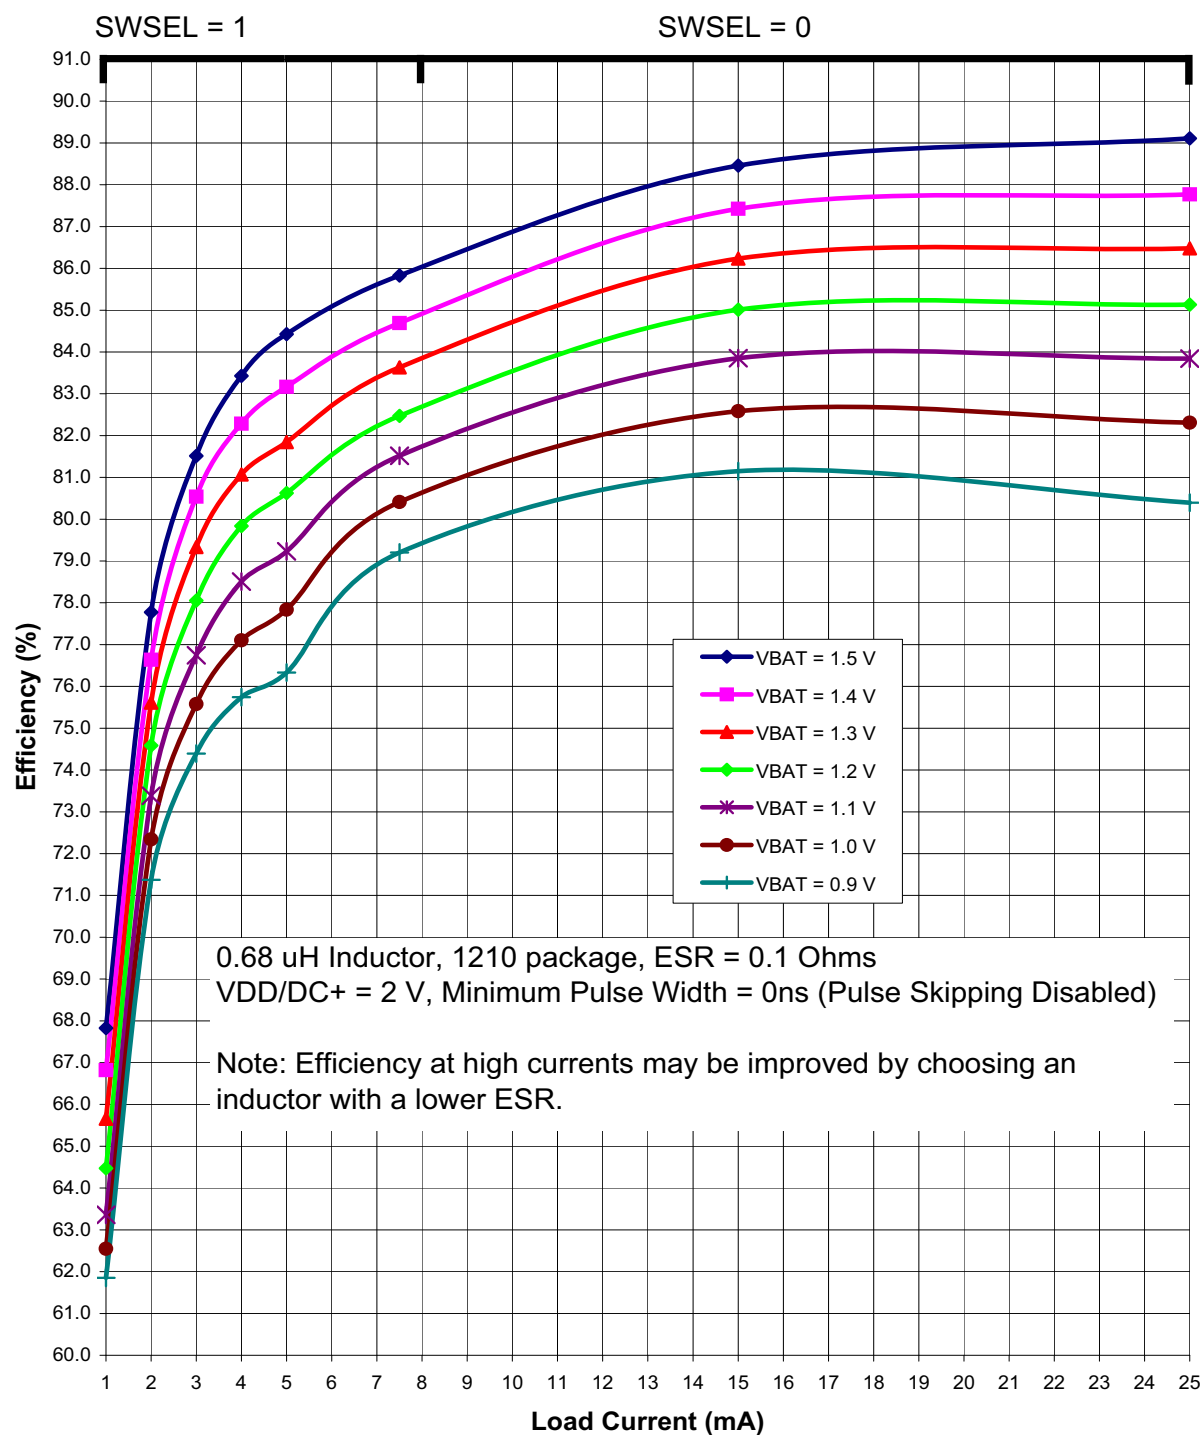
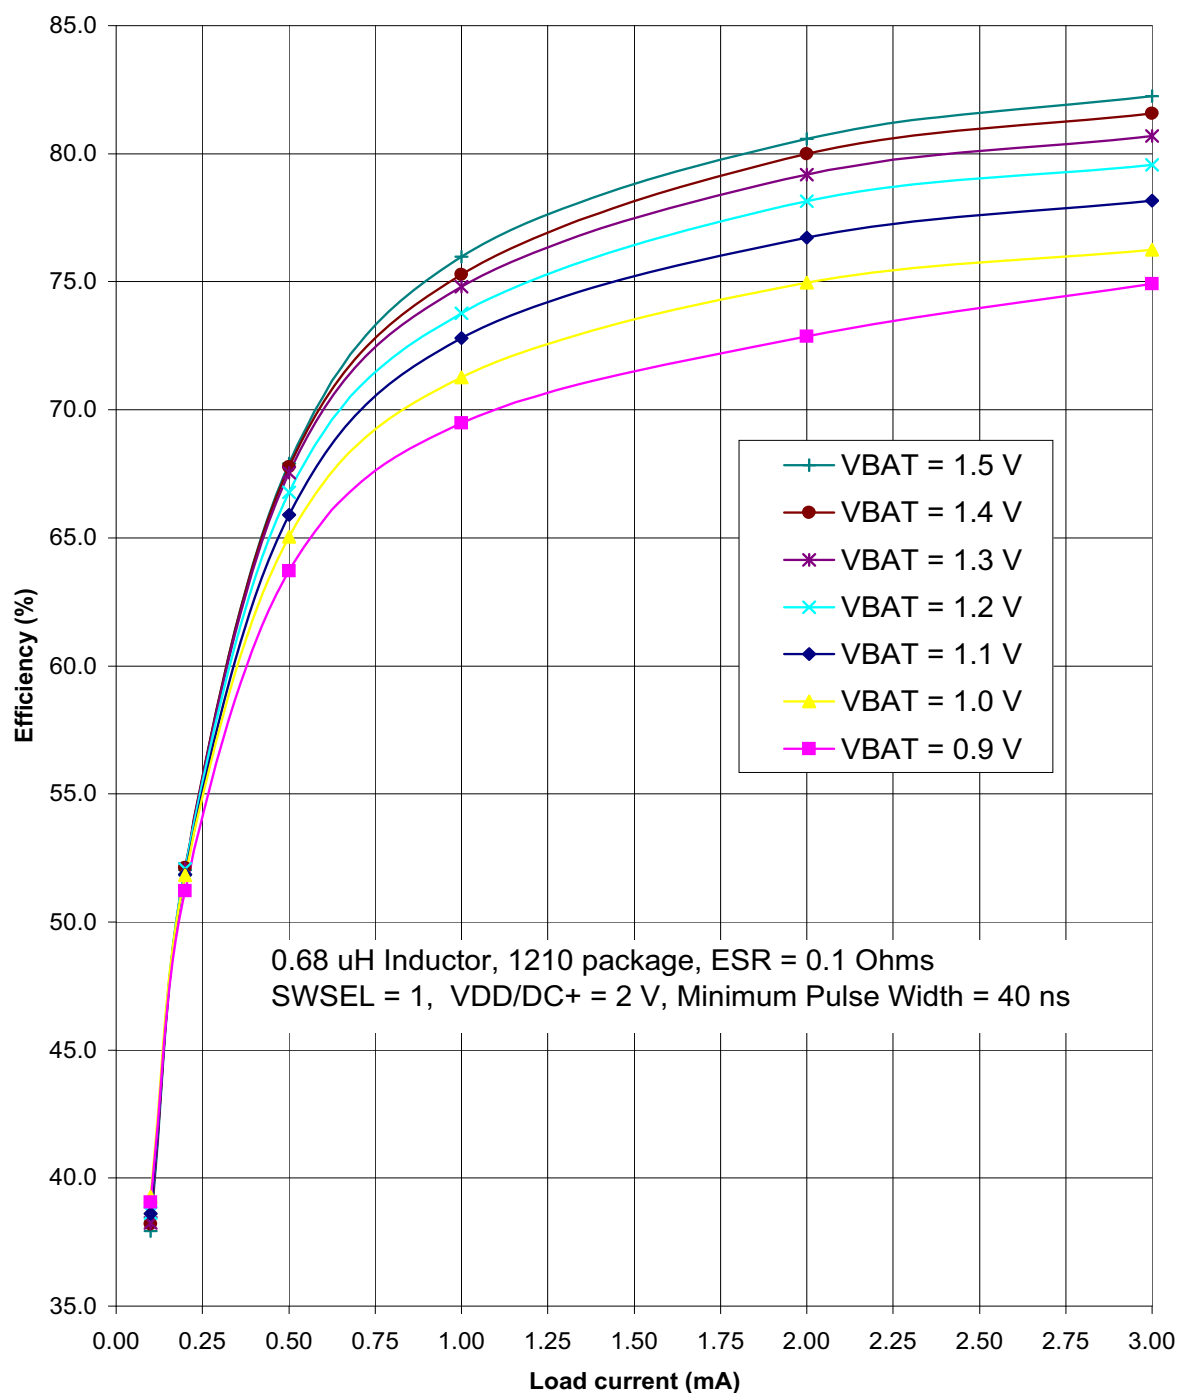

Figure 4.3. Typical DC-DC Converter Efficiency (High Current, VDD/DC+ = 2 V)
Figure 4.5. Typical DC-DC Converter Efficiency (Low Current, VDD/DC+ = 2 V)
Notes: - Based on device characterization data; Not production tested. - SYSCLK must be at least 32 kHz to enable debugging. - Digital Supply Current depends upon the particular code being executed. The values in this table are obtained with the CPU executing an "sjmp \$" loop, which is the compiled form of a while(1) loop in C. One iteration requires 3 CPU clock cycles, and the Flash memory is read on each cycle. The supply current will vary slightly based on the physical location of the sjmp instruction and the number of Flash address lines that toggle as a result. In the worst case, current can increase by up to 30% if the sjmp loop straddles a 64-byte Flash address boundary (e.g., 0x007F to 0x0080). Real-world code with larger loops and longer linear sequences will have few transitions across the 64-byte address boundaries. - Includes oscillator and regulator supply current. - IDD can be estimated for frequencies ≤ 14 MHz by simply multiplying the frequency of interest by the frequency sensitivity number for that range, then adding an offset of 90 μA. When using these numbers to estimate I_{DD} for >14 MHz, the estimate should be the current at 25 MHz minus the difference in current indicated by the frequency sensitivity number. For example: $V_{DD} = 3.0$ V; $F = 20$ MHz, $I_{DD} = 4$ mA – $(25 \text{ MHz} - 20 \text{ MHz}) \times 0.102 \text{ mA/MHz} = 3.5$ mA assuming the same oscillator setting. - The supply current specifications in Table 4.2 are for two cell mode. The VBAT current in one-cell mode can be estimated using the following equation: $\text{VBAT Current (one-cell mode)} = \frac{\text{Supply Voltage} \times \text{Supply Current (two-cell mode)}}{\text{DC-DC Converter Efficiency} \times \text{VBAT Voltage}}$ The VBAT Voltage is the voltage at the VBAT pin, typically 0.9 to 1.8 V. The Supply Current (two-cell mode) is the data sheet specification for supply current. The Supply Voltage is the voltage at the VDD/DC+ pin, typically 1.8 to 3.3 V (default = 1.9 V). The DC-DC Converter Efficiency can be estimated using Figure 4.3–Figure 4.5. - Idle IDD can be estimated by taking the current at 25 MHz minus the difference in current indicated by the frequency sensitivity number. For example: $V_{DD} = 3.0$ V; $F = 5$ MHz, Idle $I_{DD} = 2.1$ mA – $(25 \text{ MHz} - 5 \text{ MHz}) \times 0.079 \text{ mA/MHz} = 0.52$ mA.